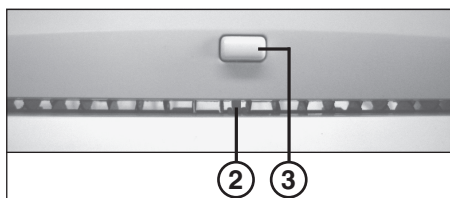

fig. 2
- 3 = Auxiliary switch (fig. 2) (forward run, manual)**